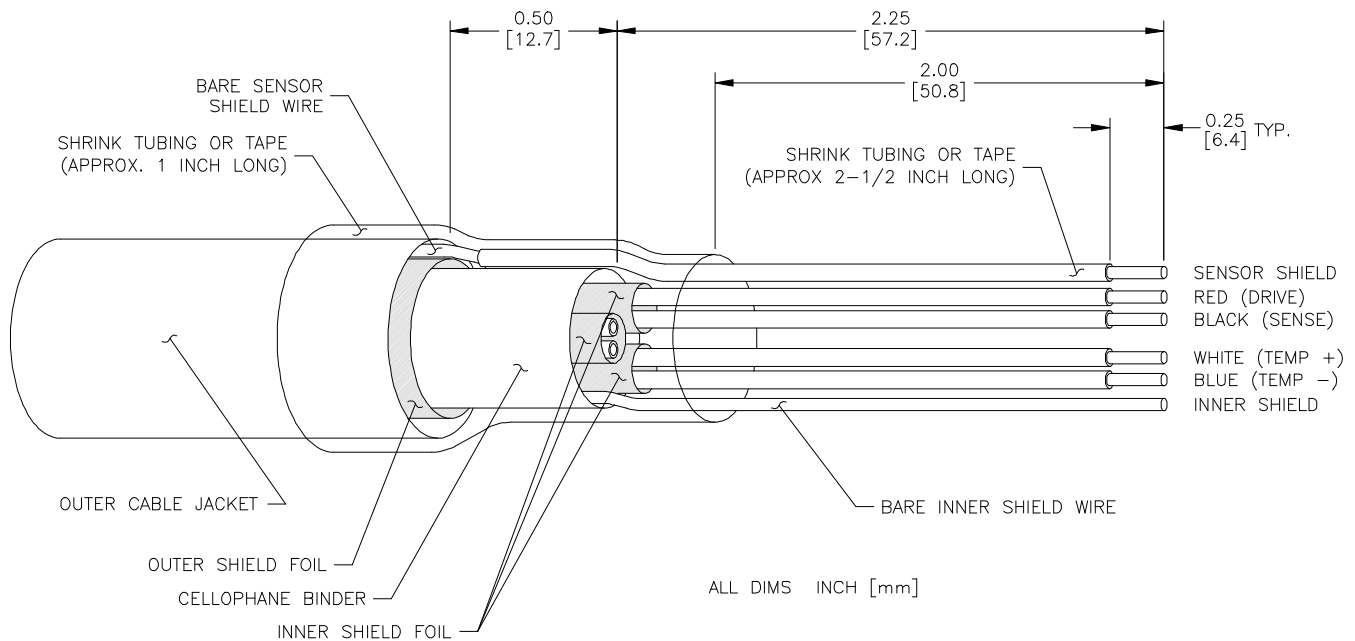

FIGURE 2-6 Interconnect Cable Termination Details
To correctly terminate the ends of the interconnect cable, refer to Figure 2-6 and follow this procedure:
5. Carefully position a 2-1/2 inch long piece of shrink tubing or tape on the bare sensor shield wire 1/4-inch from the end as shown in Figure 2-6 to insulate and distinguish it from the inner shield wire. Doing this exposes 1/4-inch of bare shield wire beyond the tubing or tape for connection purposes.
6. Carefully position a 1-inch long piece of shrink tubing or tape on the cable as shown in Figure 2-6 to secure all wires.